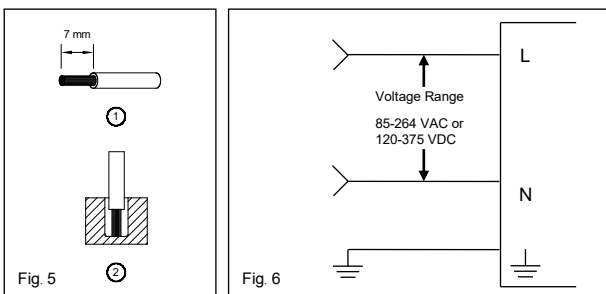

Fig. 5
You can use flexible (stranded wire) or solid cables with cross section 0.52-3.3 mm² (AWG 20-12) and torque of 0.46 Nm (4.05 lb in). To secure reliable and shock proof connections, the stripping length should be 7 mm (see Fig. 5 (1)). Please ensure that wires are fully inserted into the connecting terminals as shown in Fig. 5 (2).